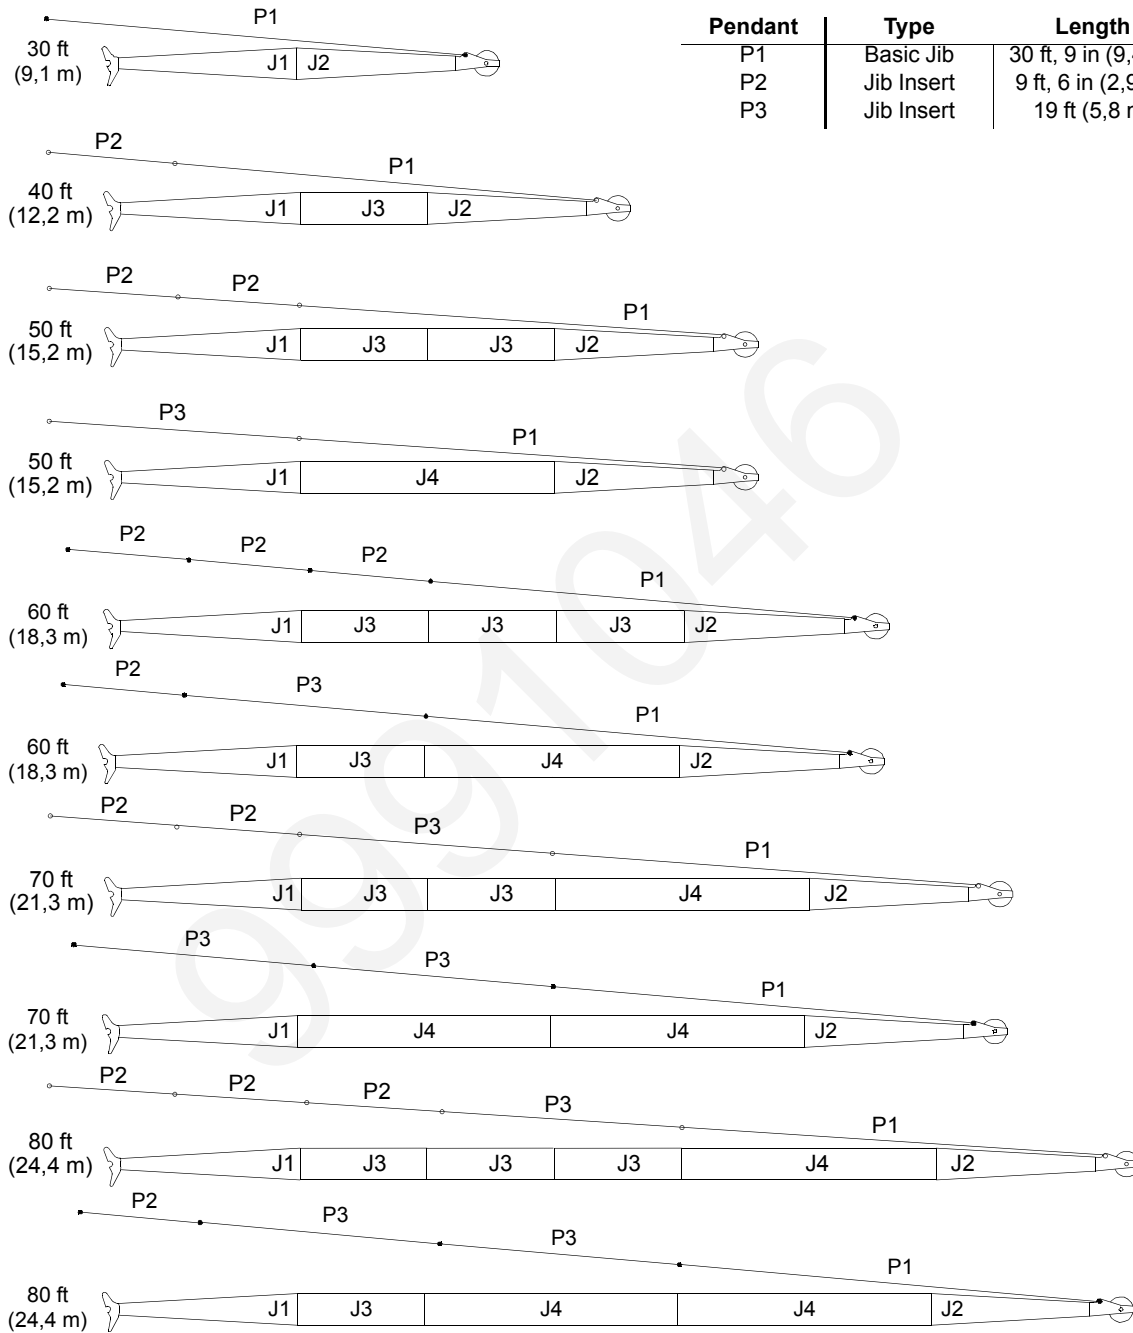

FIGURE 4-44
**NOTE:** See Jib Rigging Drawing at the end of this section for required number of jib inserts and pendants for each jib length. See Figure 4-44 for additional assistance.